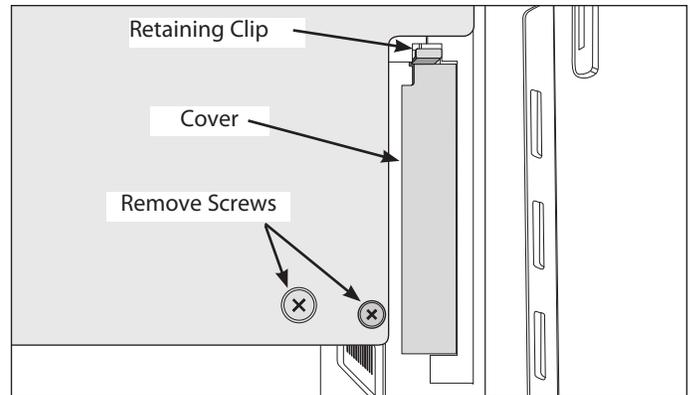

Figure 6-85.
2. Remove the cover by pushing down on the retaining clip at the top. (See Figure 6-85)